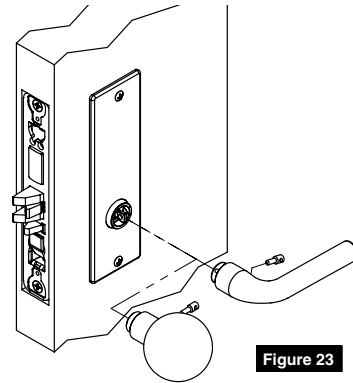

Figure 23
7. Install inside lever or knob by inserting dowel screw. (Figure 23)